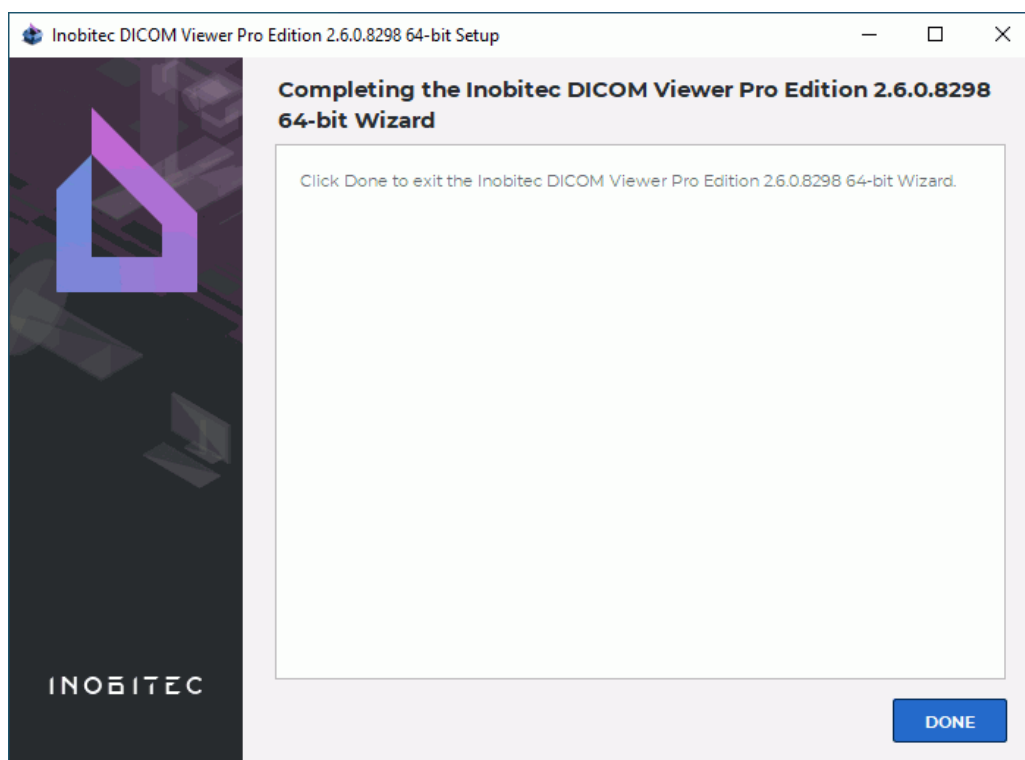

Figure 10: Installation complete
12. Wait until the installation process is complete (Fig. 10). Click the **DONE** button.